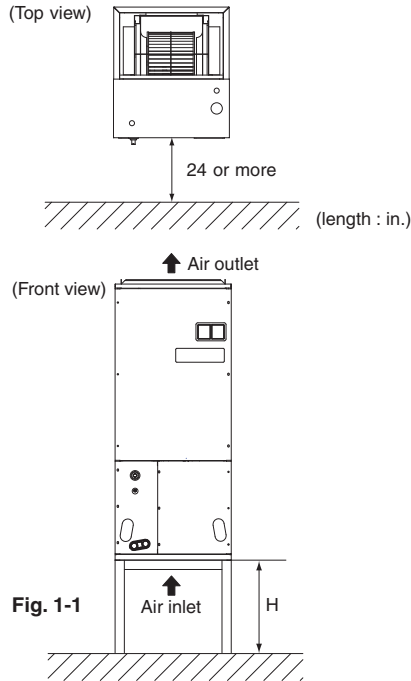
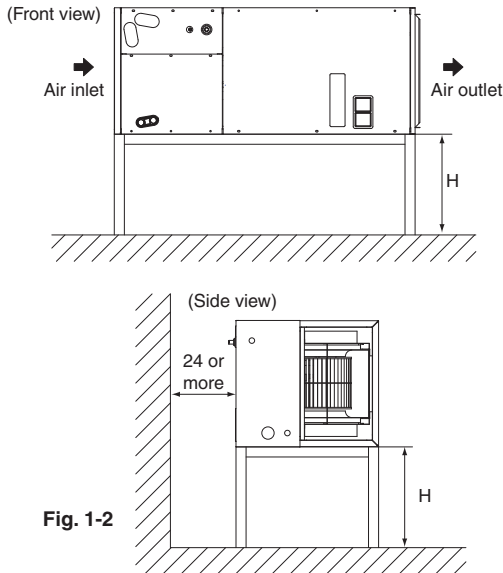

Fig. 1-1
Fig. 1-2
- (1) Select an installation site where the following conditions are fulfilled and that meets with your customer's approval.
- Where sufficient clearance for maintenance and service can be ensured. (Refer to Fig. 1-1 and Fig. 1-2)
- When installing the unit horizontally, be sure to tilt the unit in the direction shown in Fig. 1-2. If the unit is tilted in any other way, water can leak.